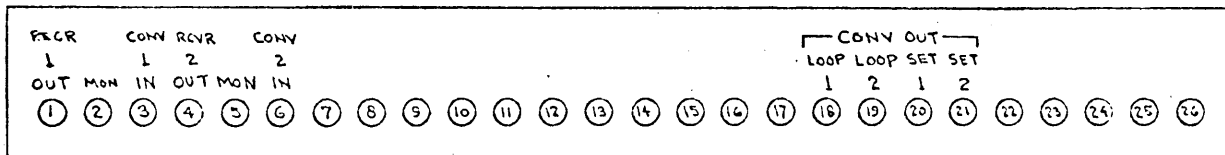

Figure 3-1. AF/DC Jackfield
a. AF/DC JACKFIELD. A front panel view of the af/dc jackfield is shown in figure 3-1; the jack numbers correspond to the reference designations for af/dc jacks shown on the interconnect wiring diagram, figure 2-3. Table 3-1 lists the system inputs and outputs which are available at each jack and describes the normal-thru circuits of the patch panel. The normal-thru circuits are broken by insertion of the patch cord plugs; the input/output appearing at a particular jack may thus be directed elsewhere in the system.